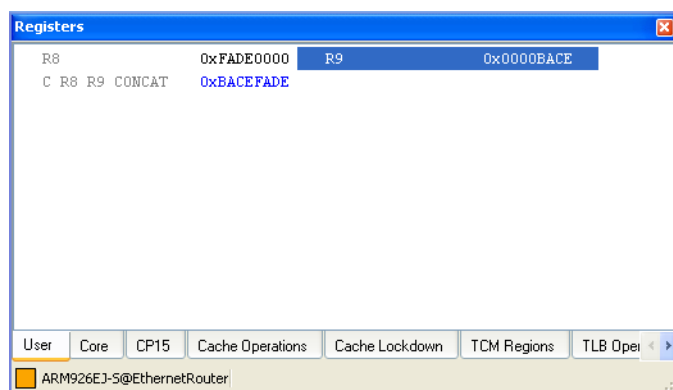

Figure 5-27 User view showing concatenated register values
7. Change the values of the R8 and R9 registers to see the value of the concatenated register change. For example, set R8 to 0xFADE0000 and R9 to 0x0000BACE. Figure 5-27 on page 5-36 shows an example: